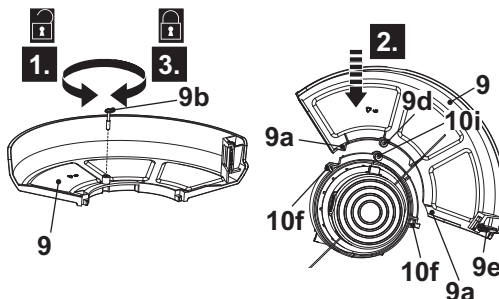

Fig. 2
1. Turn the trimmer head (10) upside down.
2. Remove the screw (9b) from the guard (9) (Fig. 2, step 1) and keep it handy.
3. Align the spigots (9a) of the guard (9) with the slots (10f) of the trimmer head (10) (Fig. 2, step 2). Fully insert the guard (9) and make sure that the screw holes (9d, 10i) are well aligned.
4. Secure the guard (9) with the screw (9b) in clockwise (Fig. 2, step 3).